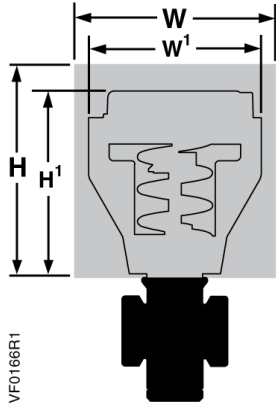

Figure 5.
- Allow sufficient space for servicing the valve and actuator. See Table 11 for valve body dimensions. See Figure 5 and Table 10 for dimensions of the service envelope recommended around the actuator.
The letters in Figure 5 refer to actuator and service envelope dimensions in Table 10. See Table 11 for valve body dimensions.